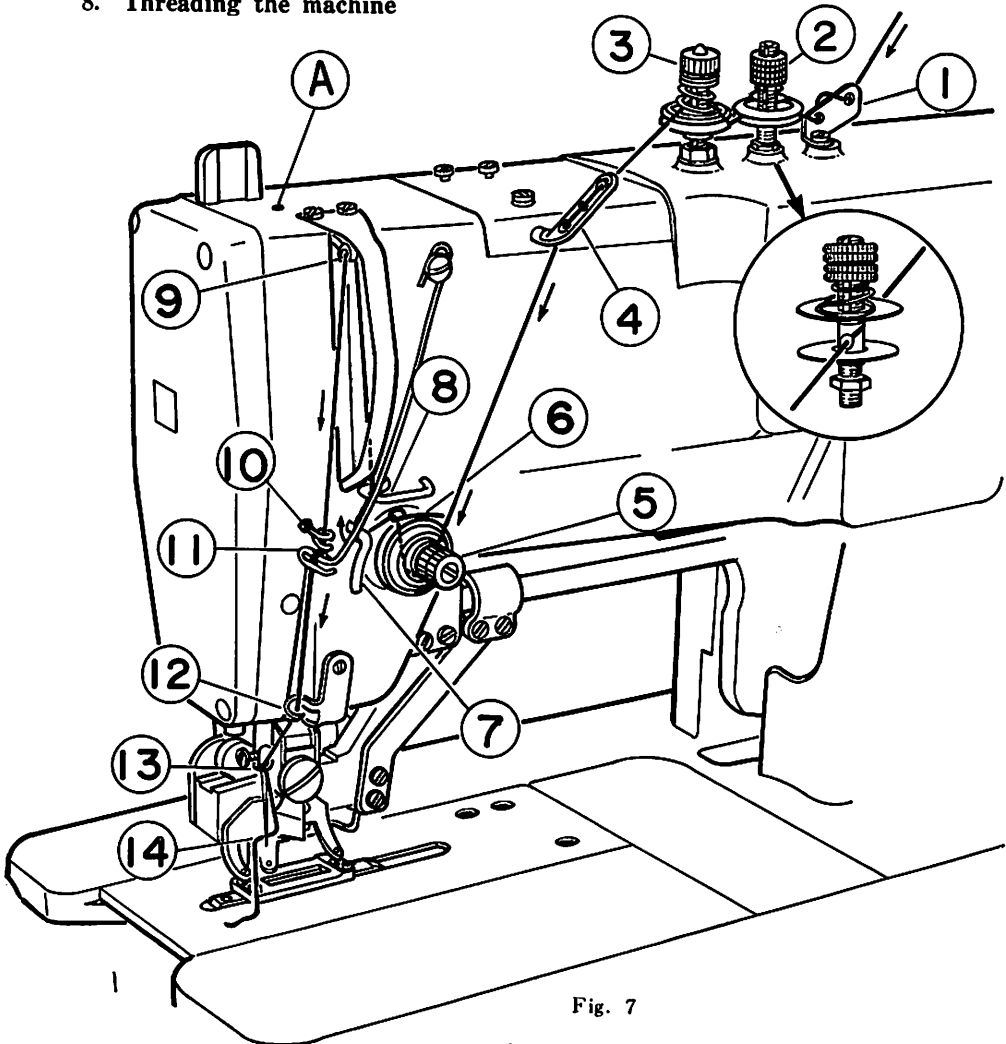

Fig. 7
Refer to Fig. 7 for the order of needle threading.
Please note also that, as shown in Fig. 7, the tension disc No. 1 ② has a hole with a slit, so pass the thread through the center hole of this slit by lifting the upper tension disc.